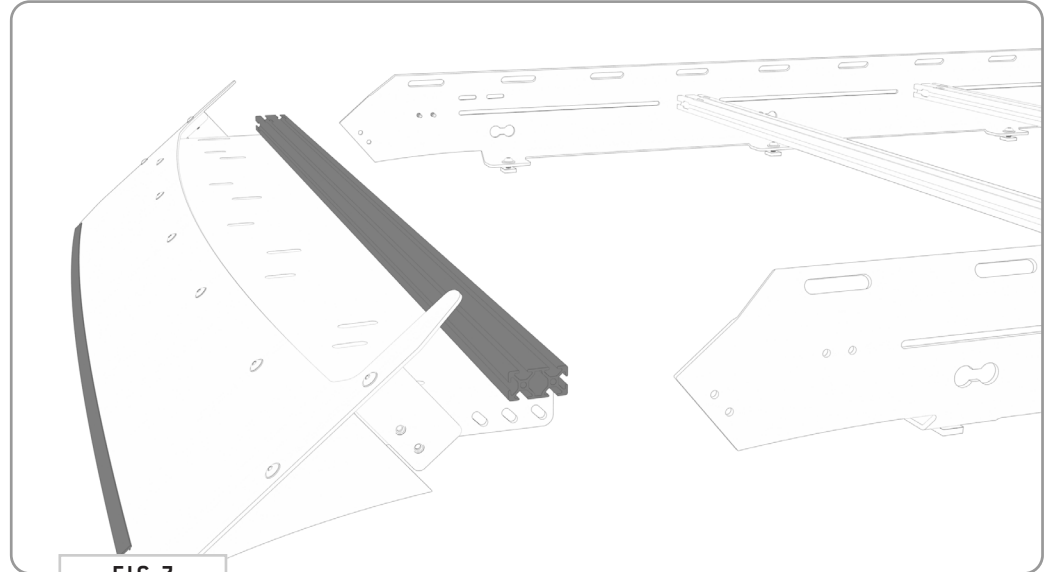
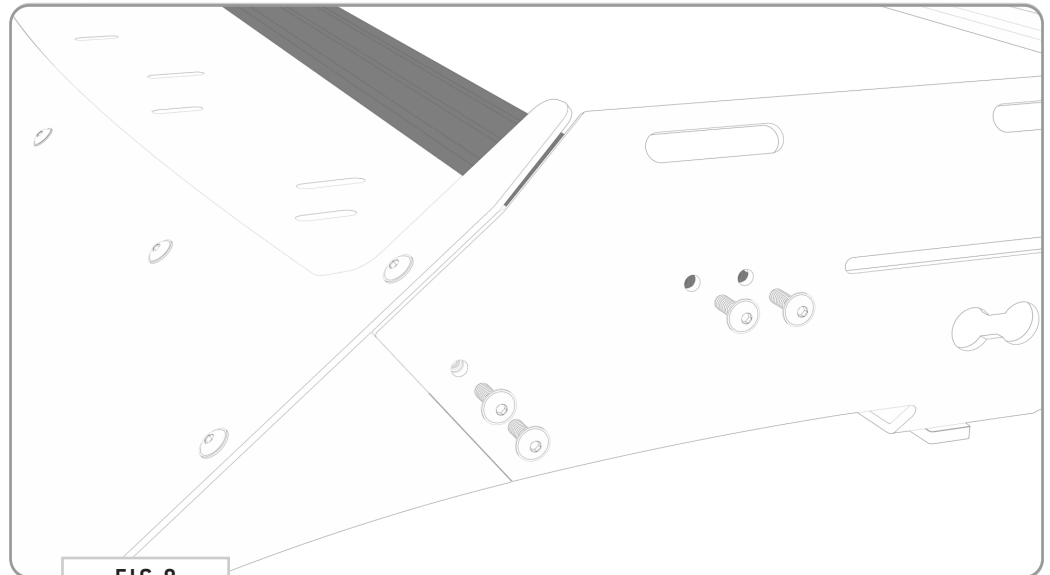

FIG 7
FIG 8
2.1 Fairing Install: Now you're ready to attach the fairing to the roof rack. Slide it in from the front and into the location shown in FIG 7. Tighten down using (8) 1/4-20" Flange Head Screws (FIG 8).